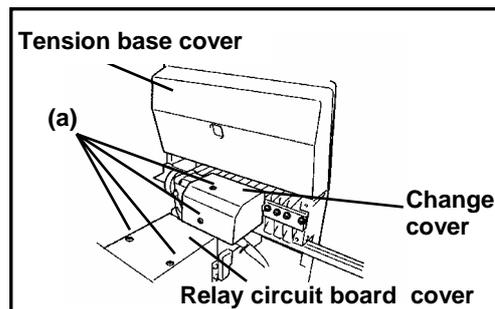

FIG.1
- (1) Remove the two each setting screws (a), then remove the change cover and relay circuit board cover. (Fig.1)
- (2) Remove the connector CN2.
- (3) Remove the tension base cover. (Fig.1)
- (4) Raised the connector upwards and disconnect it.